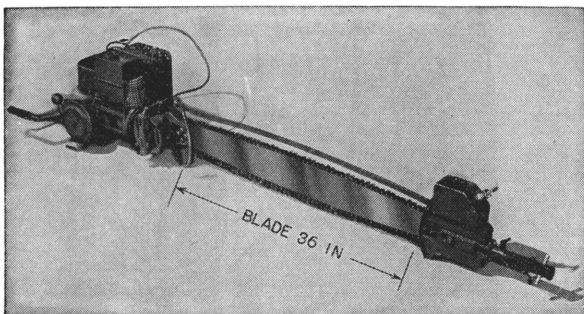

FIGURE 35.—Gasoline-driven chain saw.
■ 10. **POWER-DRIVEN TOOLS.**—The power-driven tools used most frequently by the engineer are tools driven by compressed air from the mobile air compressor unit. These tools save much time and labor, and each engineer soldier should know how to use them. The tools most commonly used are clay diggers, wood and rock drills, pavement breakers, hammers, and wood saws. (See figs. 28 to 34, inclusive.) Figure 35 illustrates the gasoline timber saw.